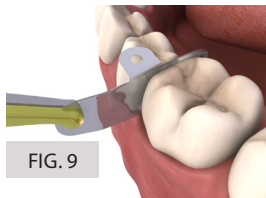

FIG. 9
**4. Premier X5™ Removal:** Remove ring using Ring Forceps, remove wedge(s) using Pin-Holder, separate matrix from composite using a thin bladed instrument by pushing the instrument into the embrasure. Fold matrix wings backwards and cure composite again from buccal and lingual surfaces. Remove matrix with Pin-Holder; grip one of the matrix holes with the Pin-Holder and gently wiggle the matrix out. (Figure 9)